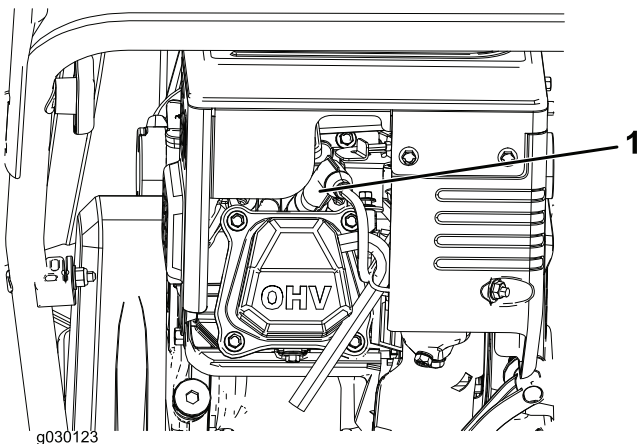

Figure 21
1. Remove the boot (Figure 21).